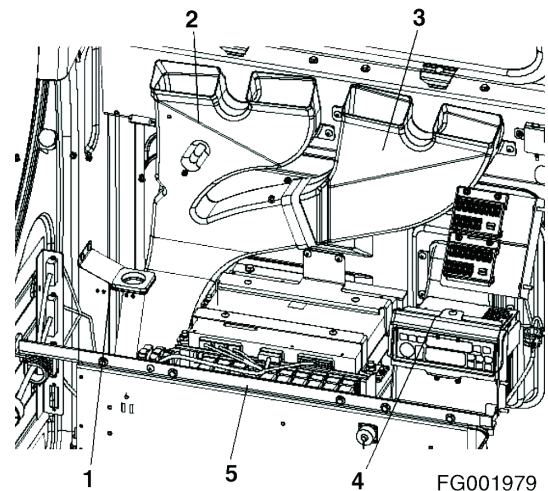

Figure 5
20. Remove air ducts (1, 2, 3 and 4, Figure 5) from cabin rear panel. (Optional)
21. Remove across bar (5, Figure 5) between left and right side of cabin.